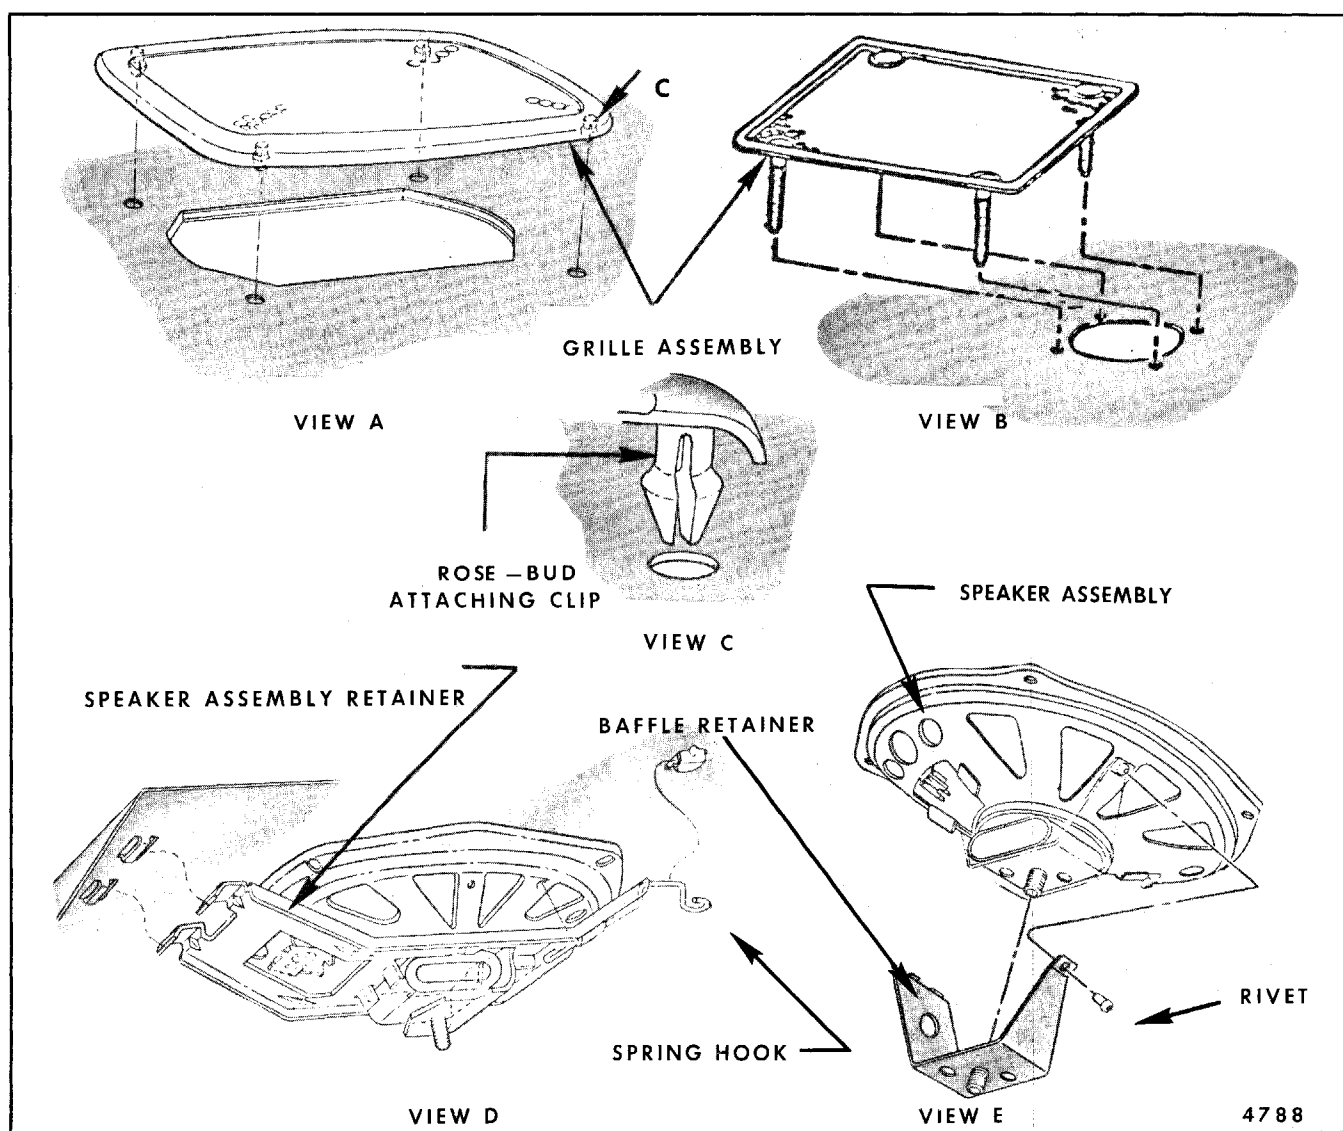
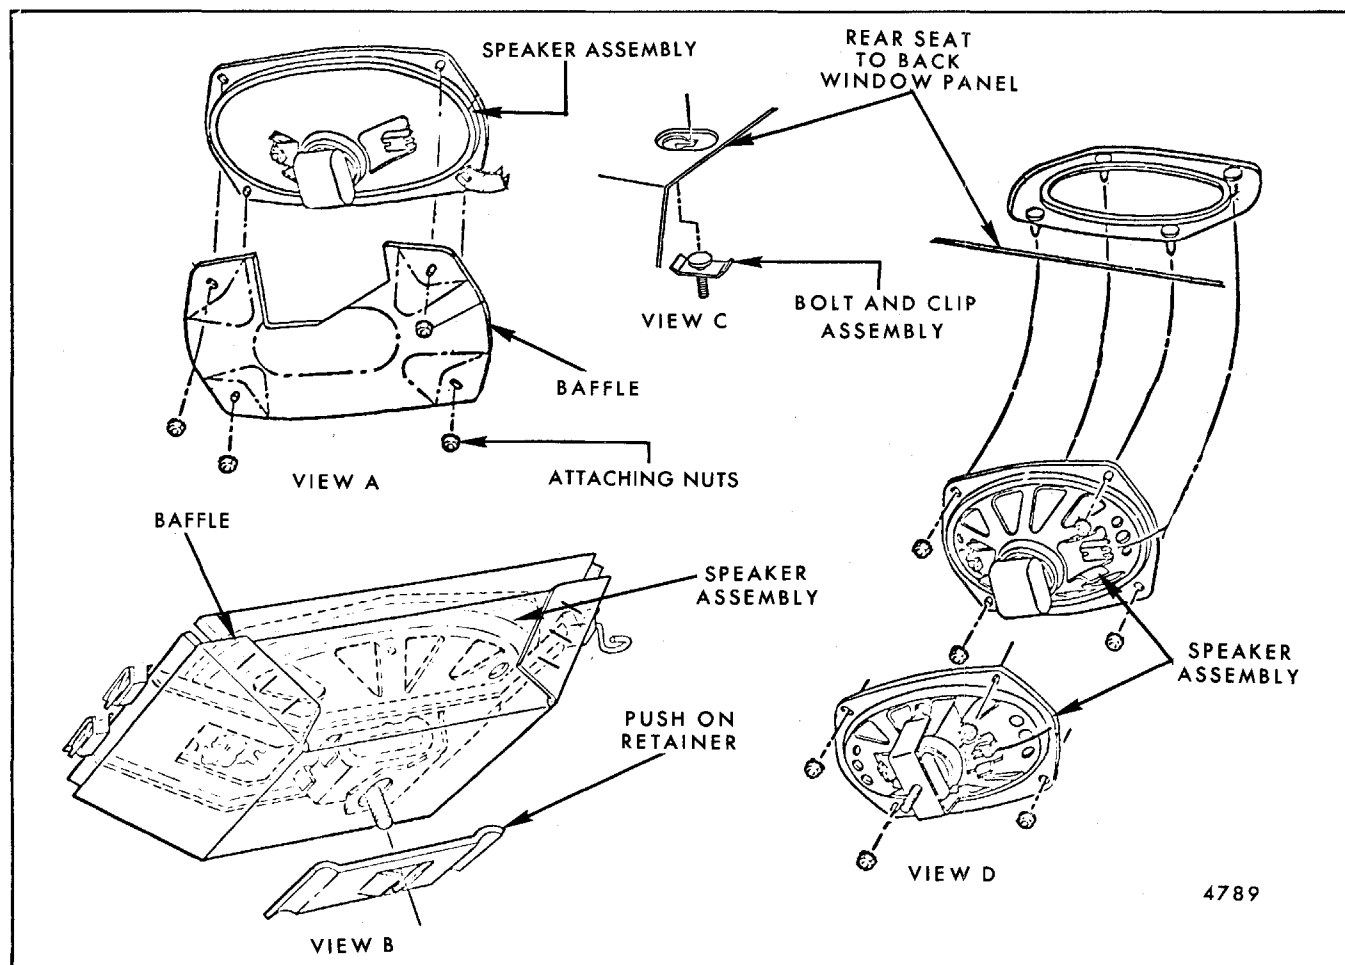

Fig. 9-104-Grille and Speaker Attachment
Fig. 9-105-Baffle and Speaker Attachment
If a nonperforated painted panel is used, the speaker is attached to a speaker grille assembly or retained by a one piece metal retainer (see Fig. 9-104, views B and D).
If a perforated vinyl coated panel is used, the speaker is retained with either a metal retainer Figure 9-104, View D, or a bolt and clip assembly Figure 9-105, view C.
1. If speaker baffle (cover) is installed to speaker assembly, detach baffle by removing push-on retainer or attaching nuts (see Fig. 9-105, view A and B).
NOTE: If replacing speaker remove baffle retainer as shown in Figure 9-104, view D and E.
3. If not previously removed with baffle, remove four attaching nuts to separate speaker assembly from grille and lift grille assembly upward to complete removal (see Fig. 9-105).
4. On styles using metal retainer assembly to secure speaker to rear seat to back window panel, Figure 9-104, View D, disengage spring hook from tab at rear of panel and swing speaker assembly downward to remove.